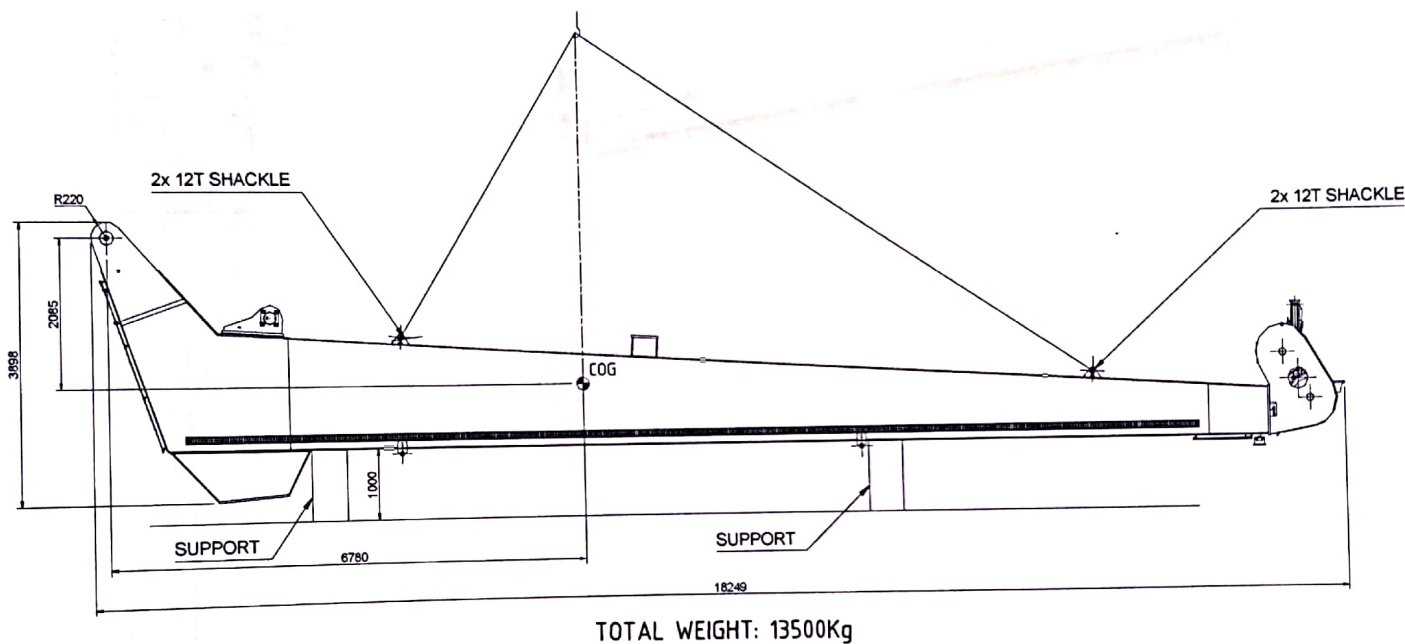

FIG. 6
6.1 Place the knuckle jib on supports as shown on FIG. 6. This will ease mounting of main jib onto knuckle jib. If the knuckle jib is more horizontal the main jib must be tilted more to allow clearance during assembly. The jibs will arrive yard complete assembled, but some details maybe out of position to protect them during transport or during lifting operation at the yard.